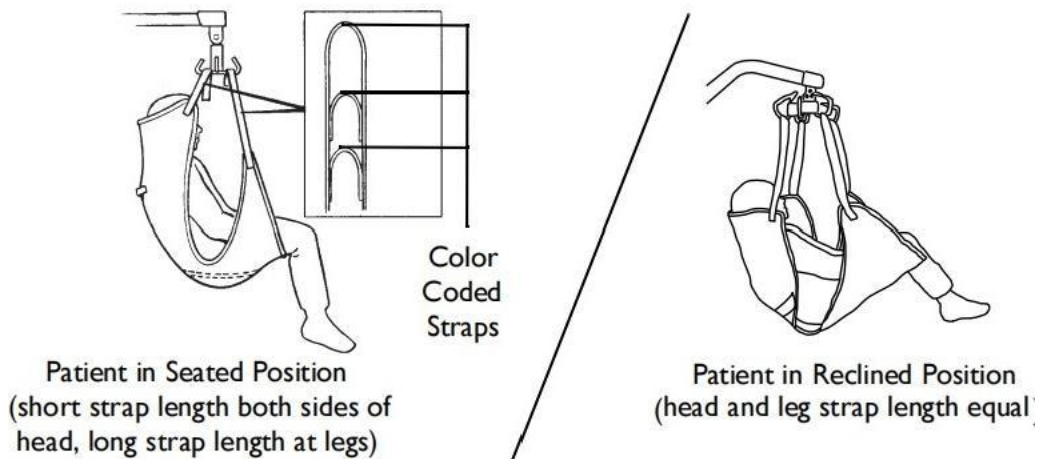

**FIGURE 1.3 Attaching the One-Piece Style Sling to the Patient Lift**
***NOTE:*** For this procedure, refer to FIGURE 1.3.